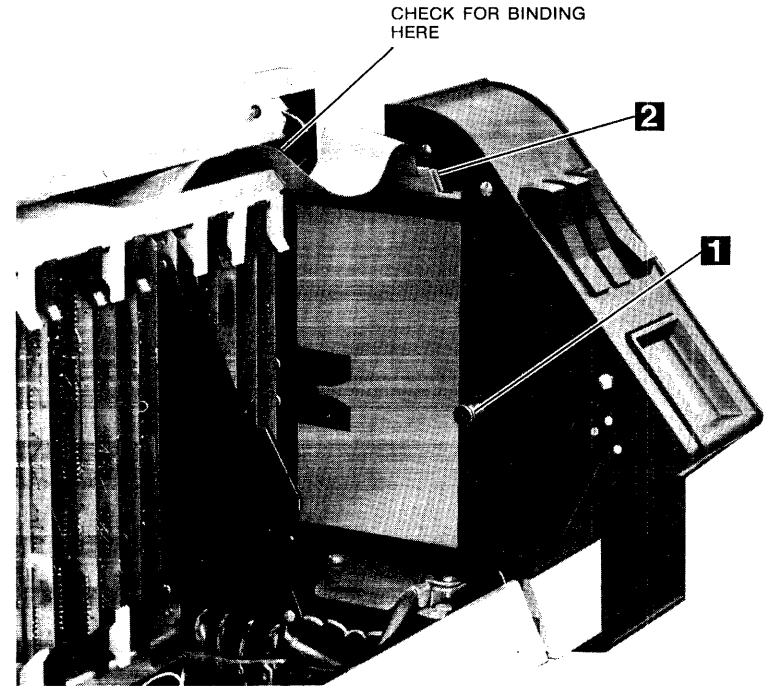

FIGURE 4-24. OPERATOR CONTROL PANEL, HALF WAY OUT
1. Loosen thumb screw, **1** in Figure 4-24, holding panel to logic assembly.
2. Slide panel out halfway, and disconnect connector **2** on top of operator control PCB; look and correct for possible binding where shown in Figure 4-24. Remove panel from drive.